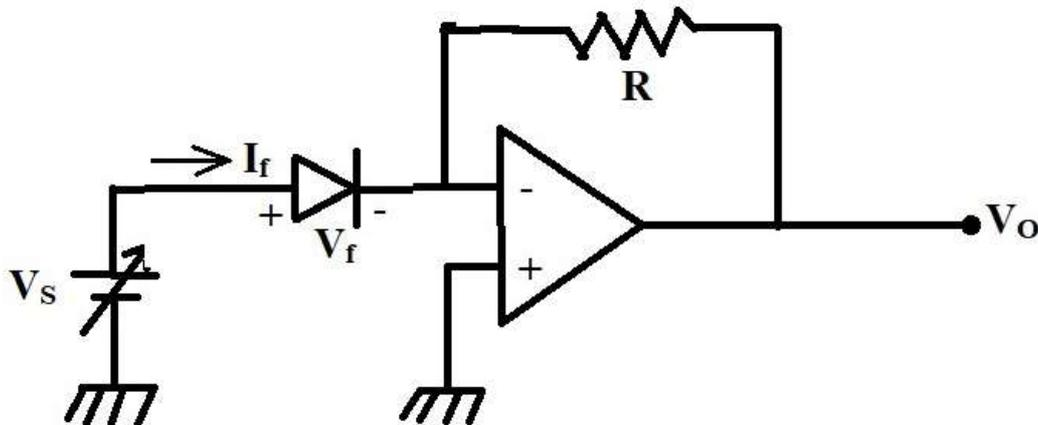

Fig. 2.1: An antilog amplifier using Diode
An amplifier whose output voltage is proportional to the antilogarithm of the input is known as antilog amplifier. Fig. 2.1 shows to build an antilog amplifier using diode.
From Fig. 2.1 we can write
1. Construct the circuit of Fig. 2.1 preferably on a bread board. Choose a resistor as R. Any ordinary diode can be used. Take V_S as 0-1 volt variable dc source.